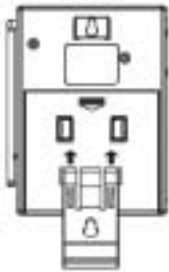

Figure 11. Slide the hook into the Stand Slot
Step 2. Slide hook into the **[Stand Slot]** (Figure 11).